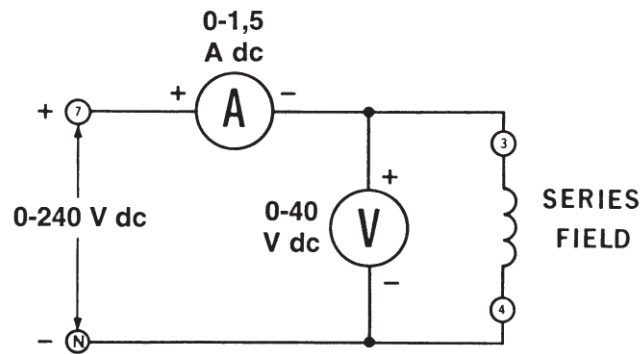

Figure 2-2.
G 8. Connect the circuit shown in Figure 2-2.
- a. This is the same circuit shown in Figure 2-2 except that the armature winding (plus the brushes) has replaced the series field winding.